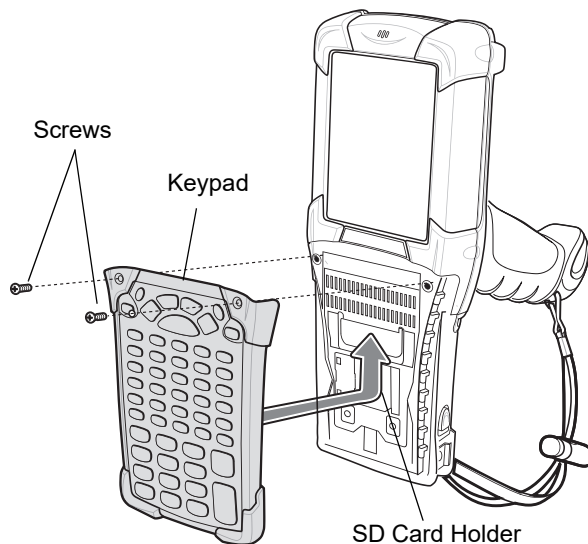

Figure 2-1 *Removing the Keypad*
The SD card provides secondary non-volatile storage. The SD card is located under the keypad (see Figure 2-1).
2. Remove the two keypad screws and slide the keypad down and lift off (see Figure 2-1 on page 2-5).